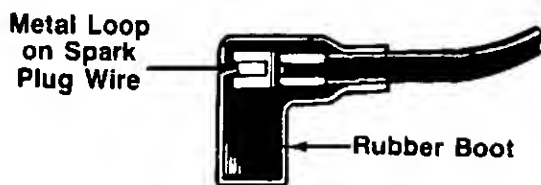

FIGURE 22.
1. Attach spark plug wire to spark plug. If unit is equipped with a rubber boot over the end of the spark plug wire, make certain the metal loop on the end of the spark plug wire (inside the rubber boot) is fastened securely over the metal tip on the spark plug. See figure 22.